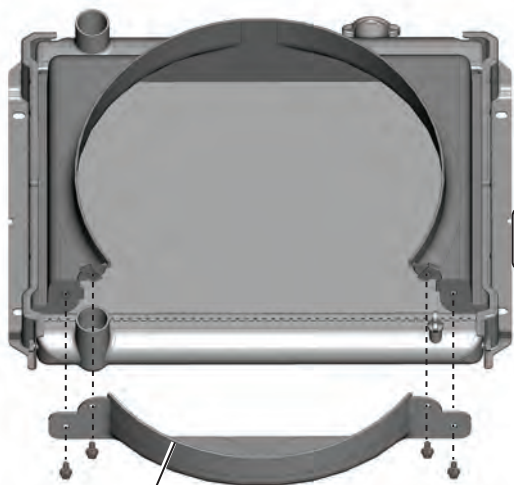

Figure 5
6. Install the lower fan shroud onto the shroud assembly (See Figure 5, below).
7. Secure the lower fan shroud with (4) 1/4-20 x 1/2" hex bolts into the U-Nuts (See Figures 5 and 6, below).